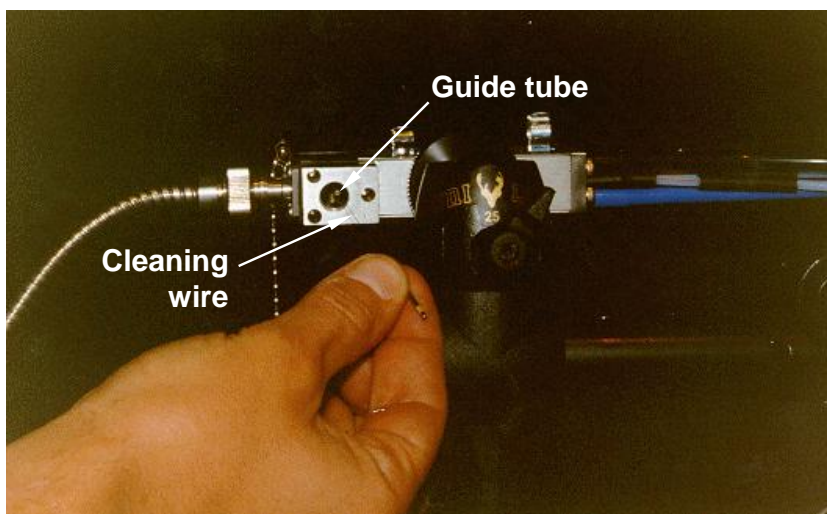

Figure 8
2. Remove the brass plug from the base of the sample head CP chamber. Inside is a tube with a coloured spot: yellow for a 0.008" i/d tee-piece, blue for a 0.010" i/d tee-piece (Figure 8).